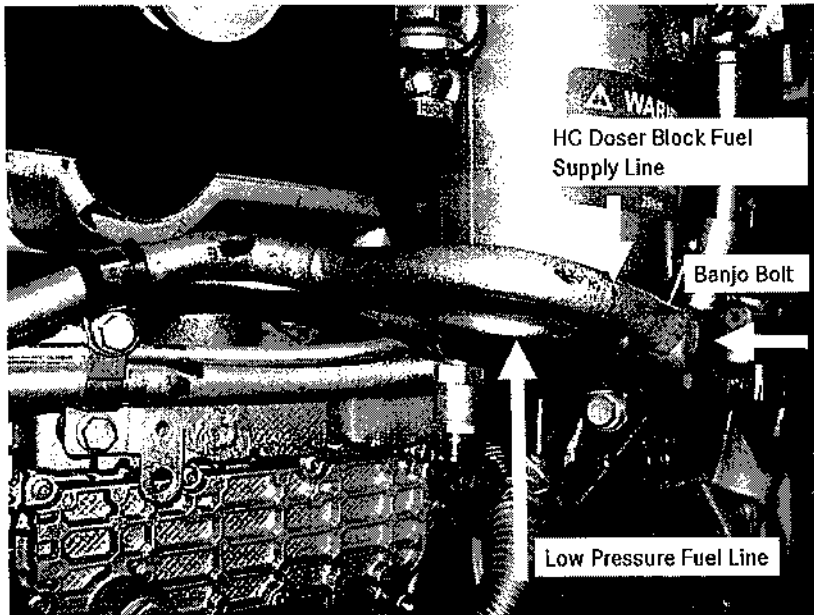

Figure 7 Steel Fuel Line Installation (EPA07 Configuration)
- b. For EPA07 configuration, use M16 x 46 banjo bolt (P/N: N915047012100) with three new seal rings (P/N: N000000001070), along with the hydrocarbon doser block fuel supply line. The new steel low pressure fuel line will be closest to the fuel filter housing. Do **NOT** bend either the steel low pressure fuel line or the hydrocarbon doser block fuel supply line. See Figure 7 for the correct installation of the lines.